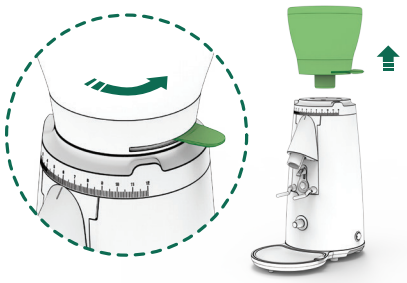

Fig. 2
**11.3.2** Check that the shutter is in the closed position before removing the hopper from the grind regulator (7). (Fig. 2).